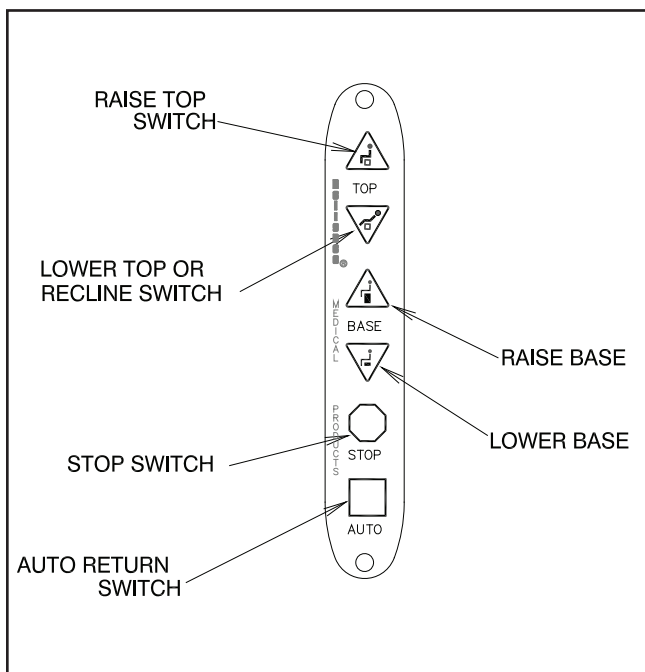

FIGURE 2
3.1.1. Depressing the STOP switch on either side of the chair back will STOP ALL movement of the chair. The STOP switch is shaped like a stop sign, and may be either RED or ORANGE in color. It is located above the text "STOP". (Refer to Figure 2). The STOP switch is also used to program the chair. See Section 4 (page 12) for programming instructions.
- The chair lift may be raised or lowered by Membrane Switches on either side of the chair back (Figure 2).
- The chair top may be raised or reclined by Membrane Switches on either side of the chair back (Figure 2).
The chair has a built-in Safety/Shutdown feature. This feature causes the chair to shutdown or become inoperable. This feature prevents unauthorized use of the chair. (See Figure 2).
4.2. Individual Programming of the RAISE TOP, RECLINE TOP, RAISE BASE, and LOWER BASE switch located on the Chair Back or Footswitch. (See Figure 2 & 3).